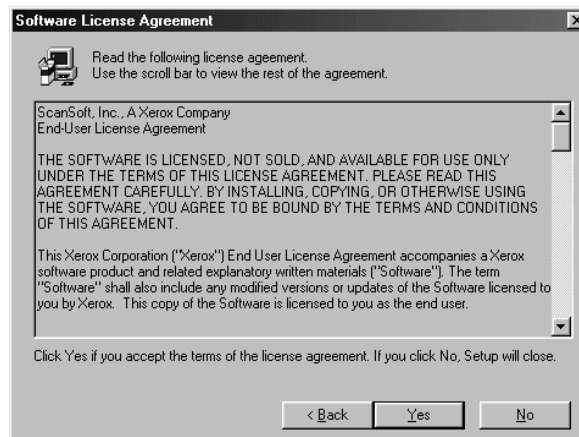

Figure 11: License Agreement
2. Click on 'Next'. Figure 11 will pop up.